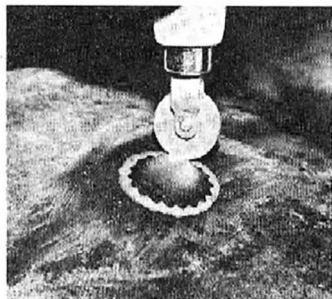

Fig. 72—Stitching Cold Patch
- b. Remove foil backing from patch base and place patch over injury. Stitch down firmly, especially at edges, to permit good adhesion and easy removal of paper cover from patch (fig. 72).